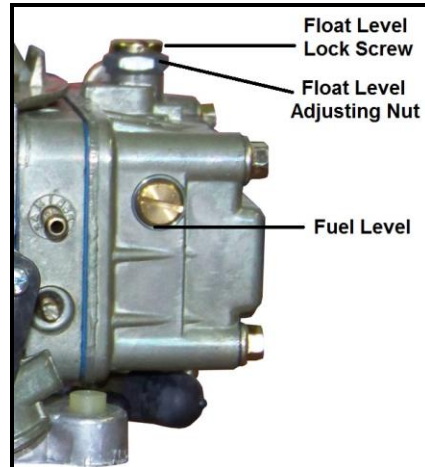

Figure 12
2. Observe the sight plug hole for the fuel level. If none is seen, the level is too low. **NOTE:** A properly set float level will have the fuel level located at the bottom edge of the sight plug, as shown by the line in Figure 12.